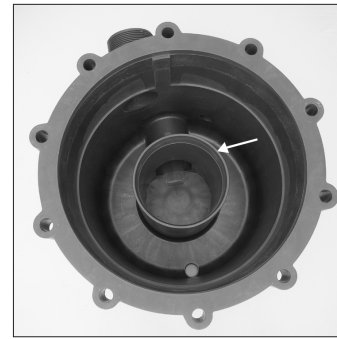
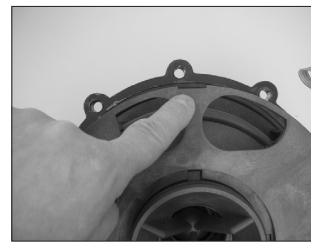

Figure 33
Figure 34
8. Install the housing (item 1). Lubricate the inside of the gooseneck with a chemically compatible lubricant. See figure 33. Line up the notch on the top of the separator plate with the tab in the housing (located inside the front of the housing near the discharge port). See figure 34.